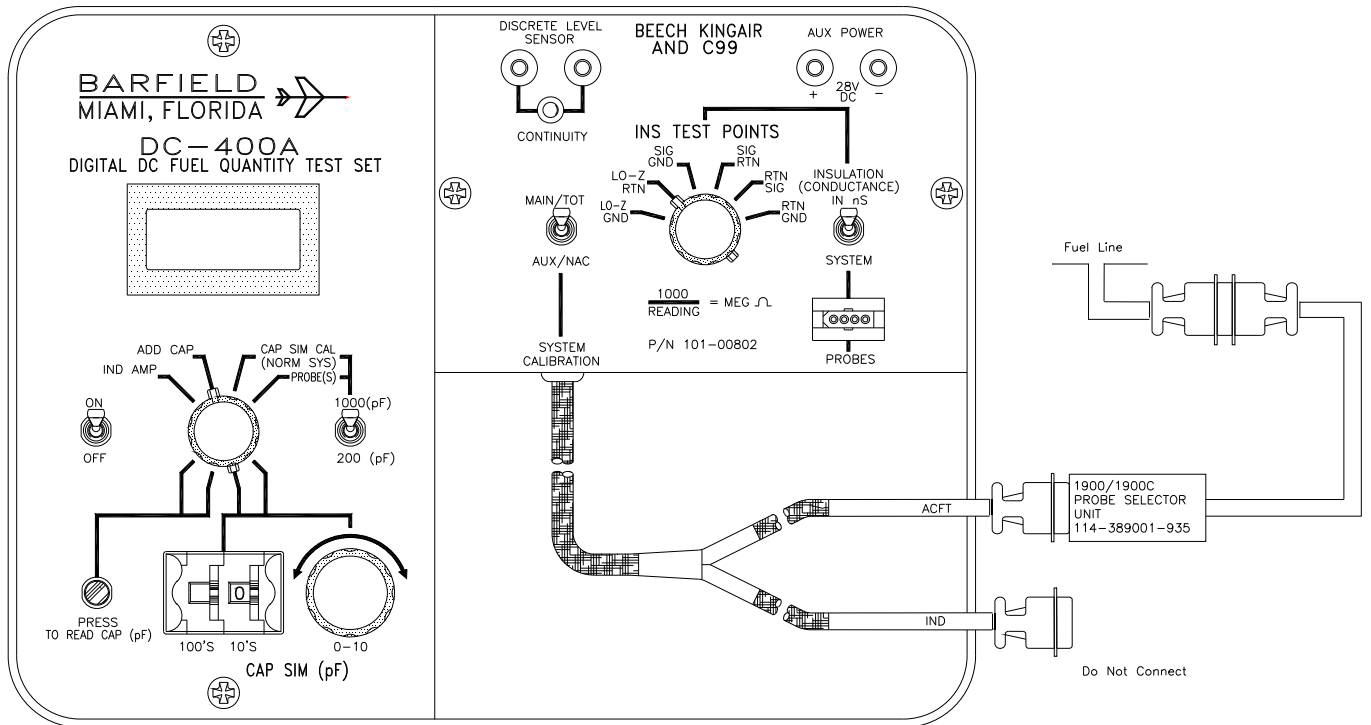
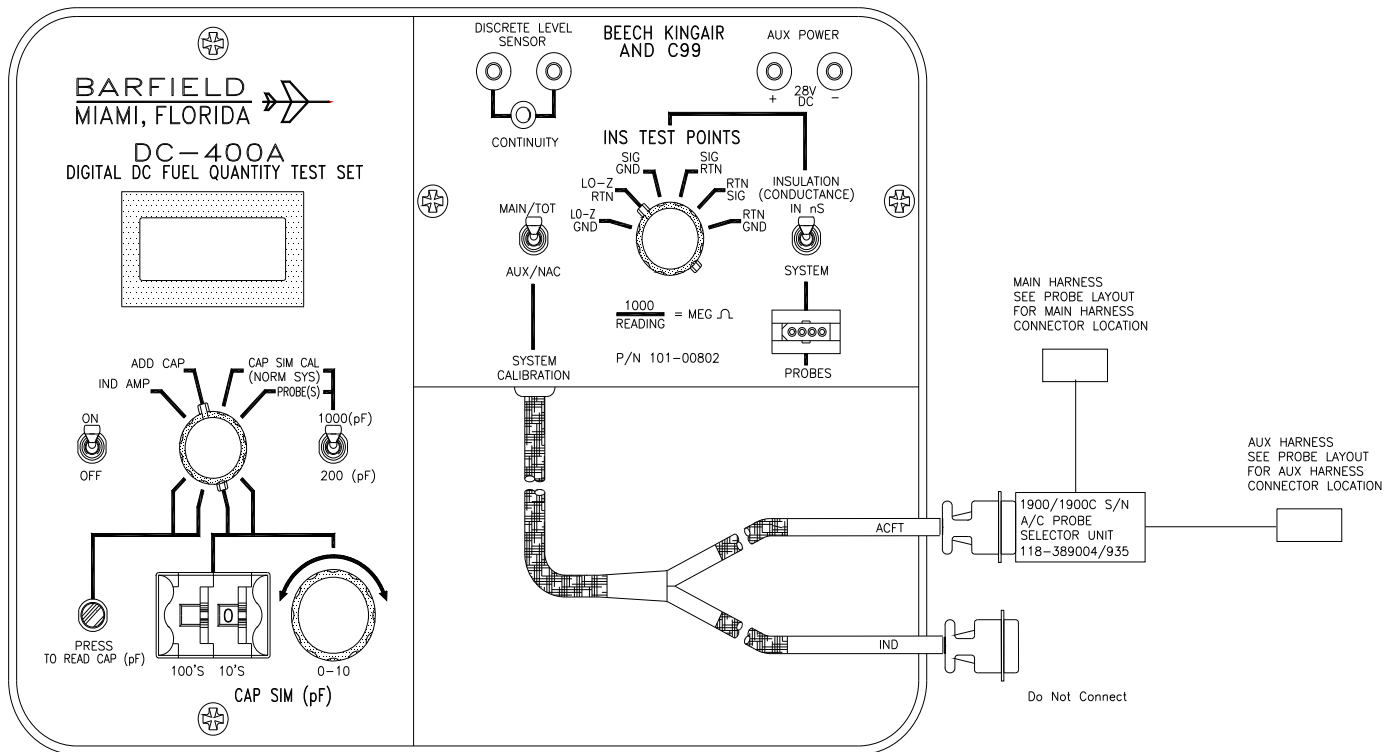

Figure 7 Capacitance Test 1900 / 1900C, UA and UB Individual Probes
Figure 8 Capacitance Test 1900C / 1900D, UC and UE Individual Probes
- (1) Connect the T/S as shown in Figure 7 or Figure 8.
- (2) Connect the appropriate Probe Selector Unit to the Interconnect Fuel Line Receptacle connector (if testing 1900/1900C, UA and UB) or to the Main Harness disconnect and Aux Harness disconnect (if testing UC and UE).
- (3) Connect the adapter cable to the Probe Selector Unit.
- (4) Connect the T/S ACFT connector to the adapter cable. *Do not connect the T/S IND connector.*